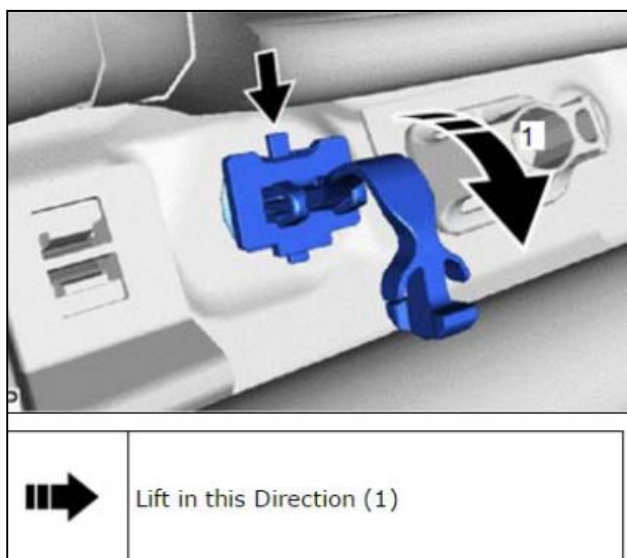

Figure 14
While pressing the part shown in Figure 14 with your finger, move the front pillar garnish clip in the direction indicated by the arrow (1) shown in Figure 14.